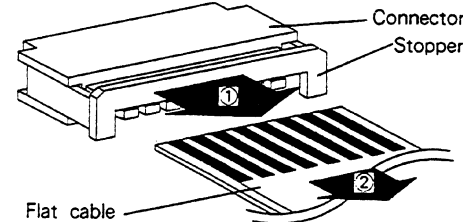

Fig. 2-3-3
- Note:** The cable and connector between the drum and head amplifier may be damaged if the cable is pulled strongly, as the cable is short. Remove the shield cap of the PCB, raise the PCB slightly and disconnect the flat cable connector and stopper is shown in Fig. 2-3-3.) Disconnect the grounding wire and remove the head amplifier PCB.